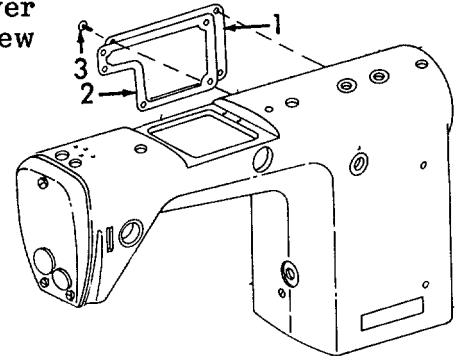

Figure 6-74. Side Cover, Removal.
a. *Removal (Refer to Figures 6-74 through 6-76).*
- (1) Refer to Figure 6-74.